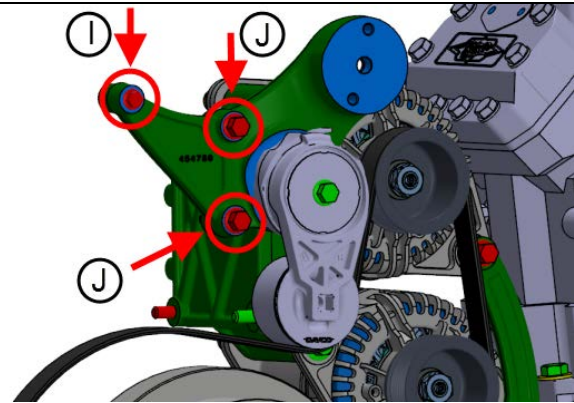

FIGURE 27
35. Snug bolts **I** & **J** indicated with arrows on FIGURE 27.